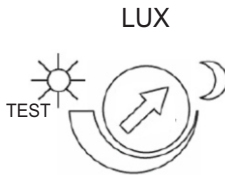

Figure 8
(3) LUX ADJUSTMENT
- Provisionally turn the LUX control knob to the edge anti-clockwise at the moon (dusk) position (**Figure 8**). In this provisional setting mode, the motion sensor remains inactive during daylight. At dusk when the light level is at the LUX required, simply set the LUX control knob to the position that the motion sensor will become active as daylight declines.